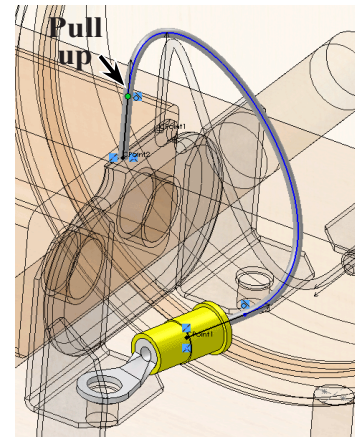

Fig. 11
Step 12. **Pull up the endpoint** slightly so Route is off of Route 2, **Fig. 11**.